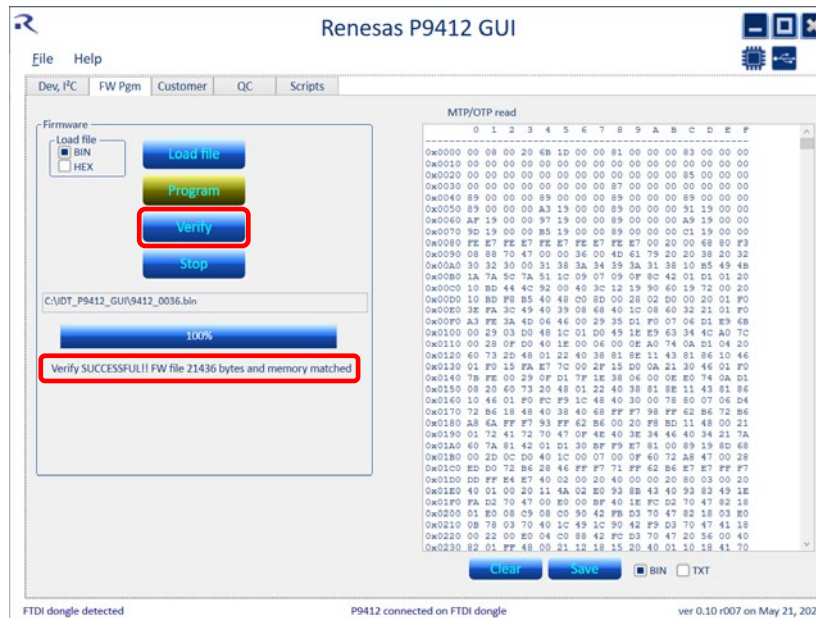

Figure 10. Firmware Program Verification Success
| Figure 10. | Firmware Program Verification Success | 11 |
- 4. If the firmware was programmed successfully, power cycle the external P/S (turn P/S off then on). Then press the “Verify” button. A total match should be indicated for successful programming (see Figure 10). If there are any errors, attempt to program again.